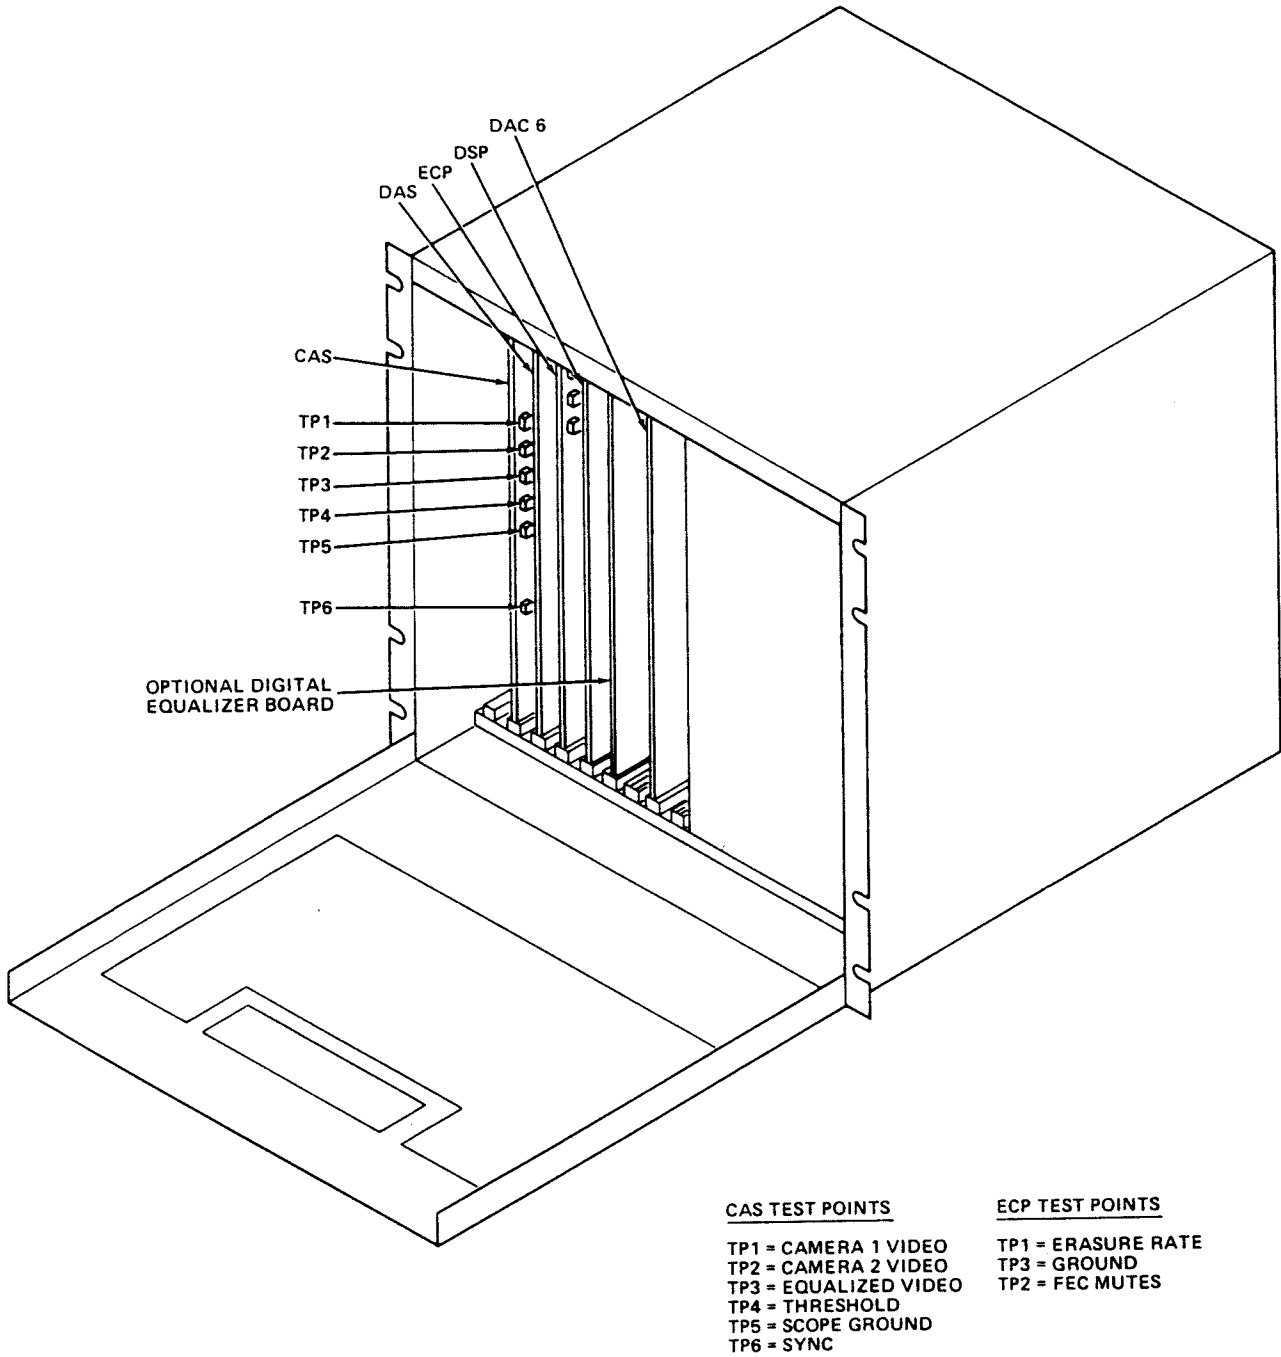

Figure 3-8. System Printed Circuit Boards and Test Points
Digital Equalizer Cabling. If digital equalizers are to be used with the Processor, check that the optional Digital Eq interface circuit board is installed in the Processor (Part No. CDE201). If the card is installed, it will be found in the Processor card rack, next to the DSP card (see figure 3-8). If the equalizer card is installed, a 50-conductor, flat ribbon cable will be connected between the card and the DIN receptacles on the rear panel of the Processor. The jumpers at W16 on the backplane (next to the DSP card) must be removed.
Analog Equalizer Cabling. If external analog equalizers are used instead of digital equalizers, check that the Digital Eq interface card (Part No. CDE201) is removed from the card rack and the "W16" jumpers (4) are installed on the backplane next to the DSP card (see figure 3-8). The inputs of the external analog equalizers are connected to the "CDS AUDIO OUTPUT" barrier strip with the audio shield connected on the equalizer end. The outputs of the external analog equalizers are connected to the "FROM AUDIO PROCESSOR OUTPUT" barrier strip with the audio shield connected to the "audio shield" grounding strip just below the fan on the rear of the processor.